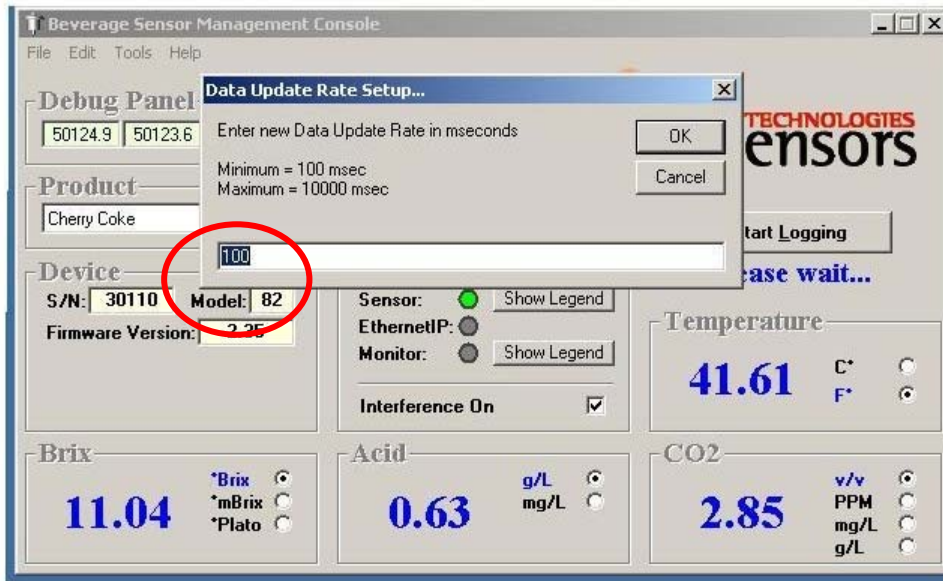

Figure: 4
9. In the *VS-3000 Dashboard* software desktop click on **Edit**>Data Update Rate. This screen allows for the setting on how fast the system sends data to the PLC over EtherNet/IP. The choices are: 100 to 10,000 msec. Please see Figure 4 below.